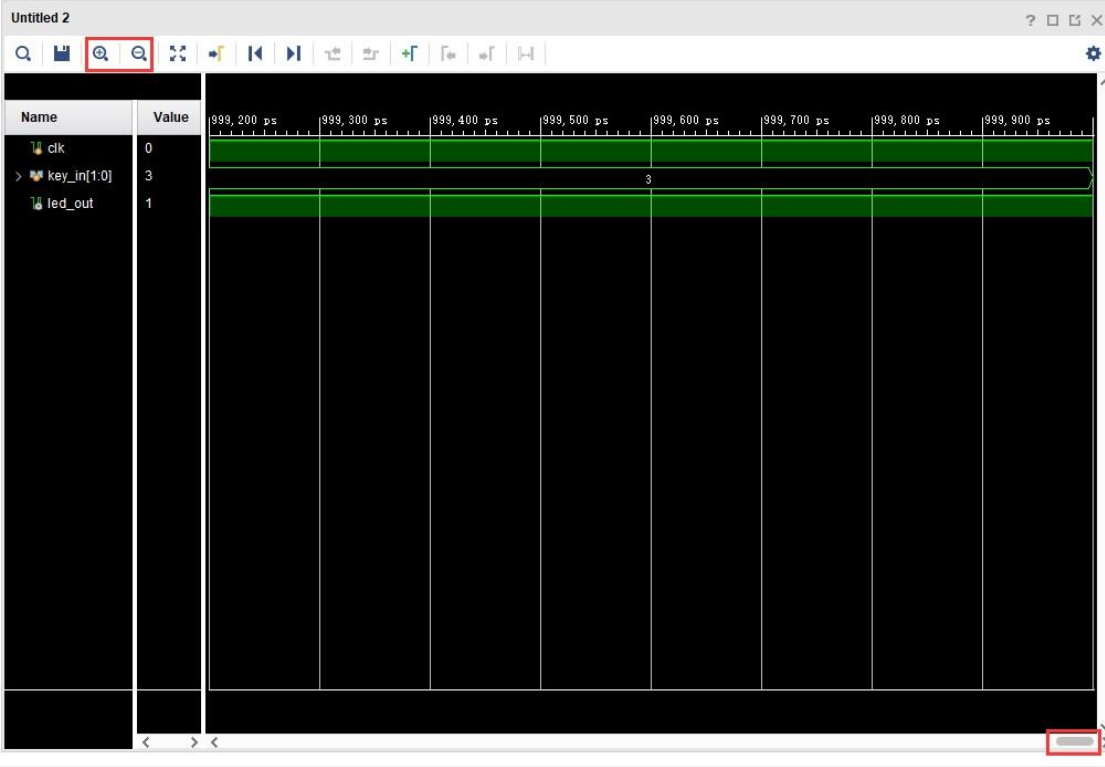
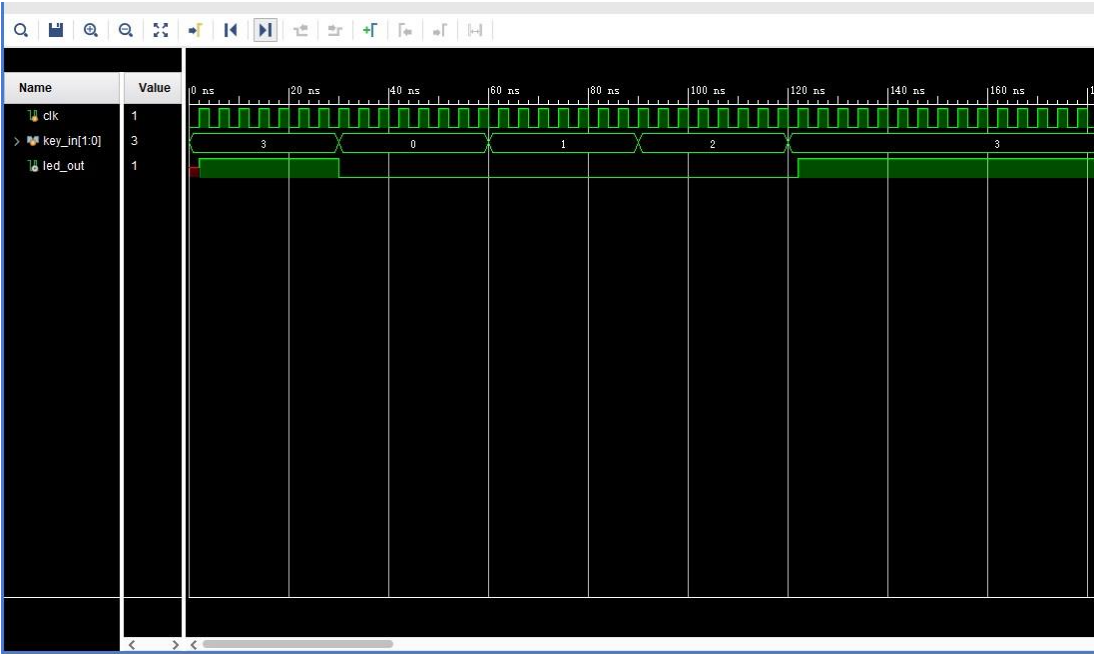

Figure 11.
Figure 12.
- 1. Drag the bar to the left and use these tools to zoom in or zoom out to see the appropriate image, as shown in figure 11 and figure 12.